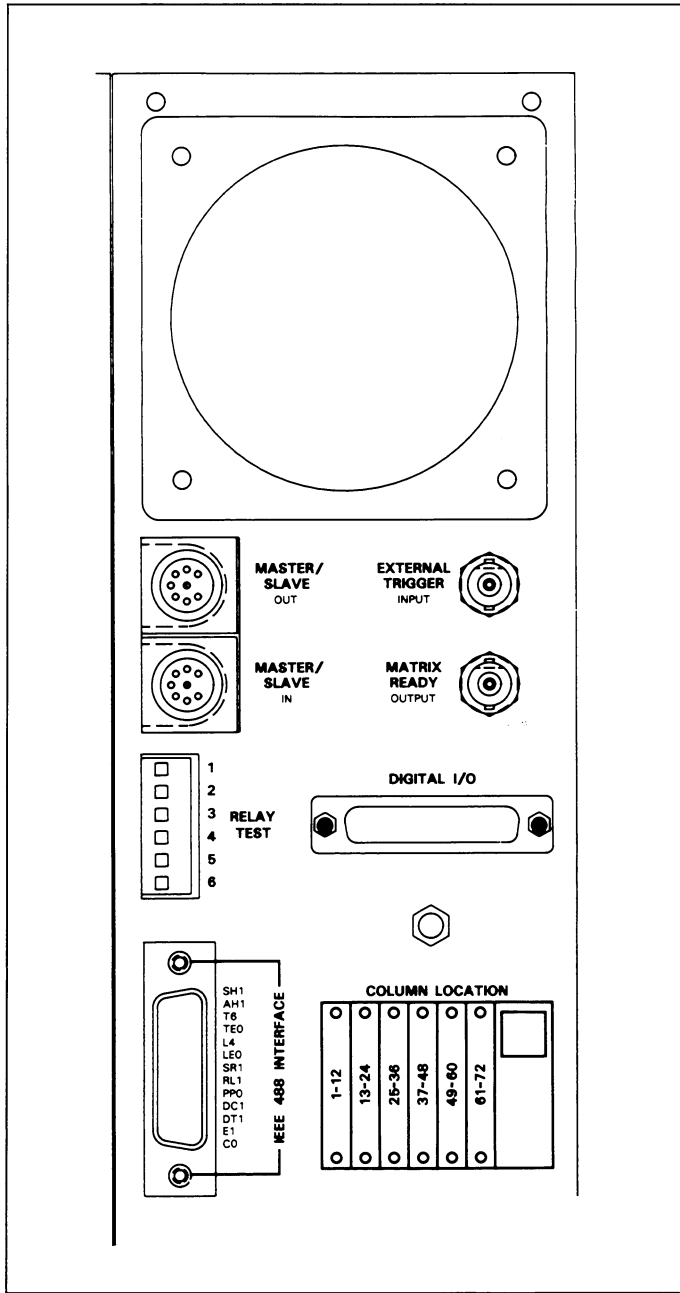

Figure 4-4. IEEE-488 Connector Location
1. Line up the connector on the cable with the connector on the rear panel of the instrument. Figure 4-4 shows the IEEE-488 connector location.